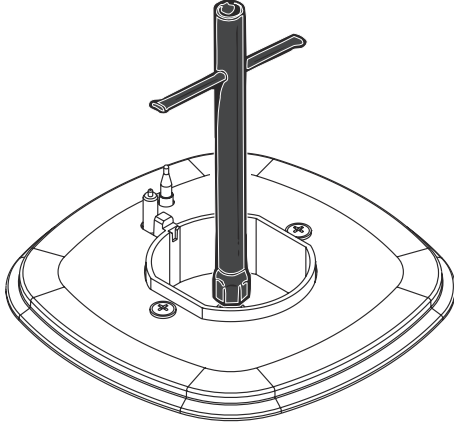

Fig. 12
- Remove the injector with a suitable socket wrench (Fig. 12) and install the new injector suitable for the gas type to be used in the appliance in its place.